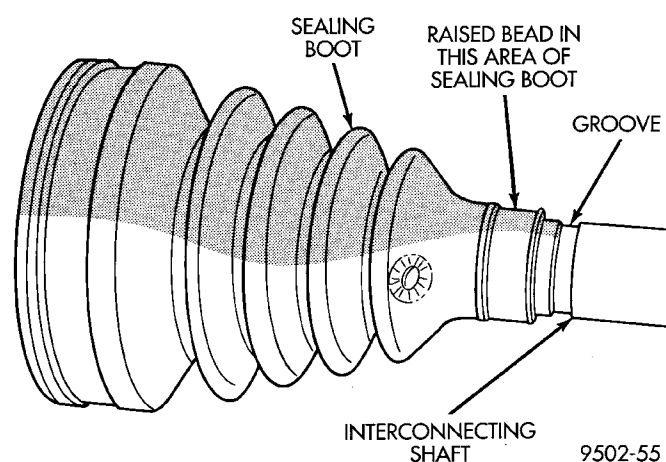

Fig. 47 Sealing Boot Installation on Interconnecting Shaft
(1) Slide new sealing boot to interconnecting shaft retaining clamp onto interconnecting shaft. Slide the outer C/V joint assembly sealing boot onto the interconnecting shaft (Fig. 47). **Seal boot MUST be positioned on interconnecting shaft so the raised bead on the inside of the seal boot is in groove on interconnecting shaft.**